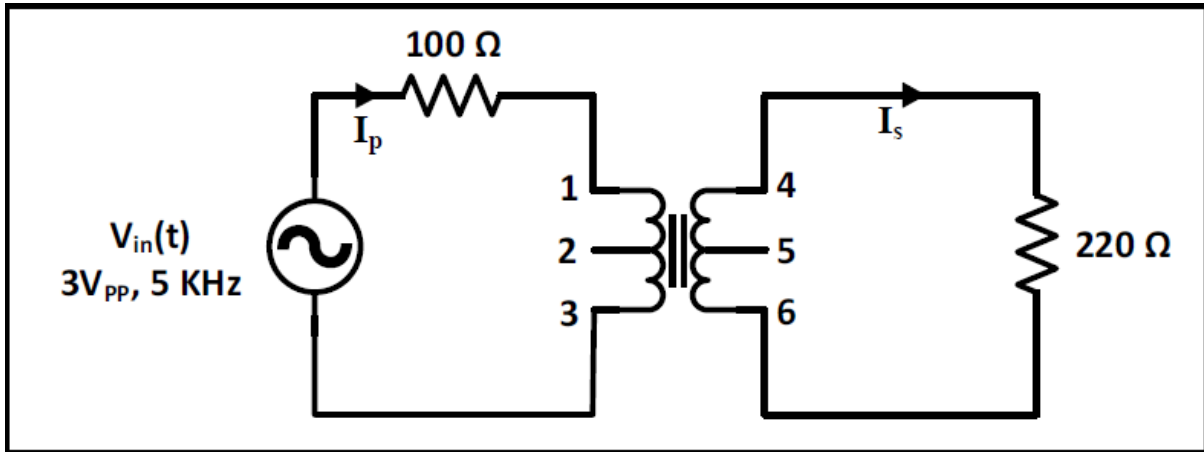

Figure 2.2
- 2) The circuit shown in the **figure 2.2** was connected, and  $V_{in}$  was set at  $3 V_{pp}$  and  $f = 5 \text{ KHz}$ , after that the primary and secondary voltages and currents were measured. The results were recorded in table 2.